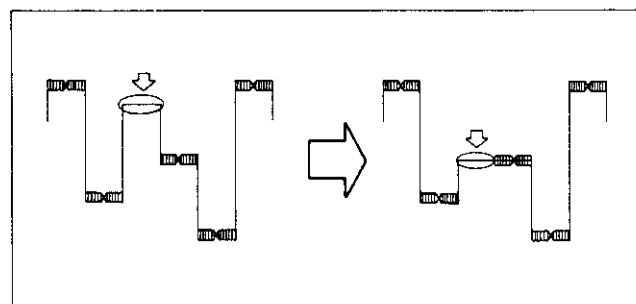

Fig. 5-4
6. Connect probe of oscilloscope to IC02 pin ⑬, and adjust T06 for the waveform shown in Fig. 5-4.